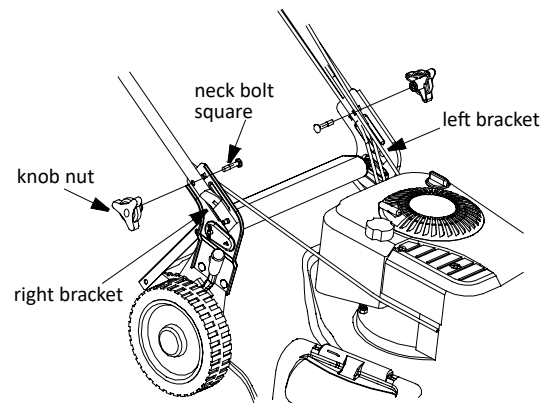

Fig.16
- Move the lower handle up and down around the rear cover rod to adjust the height. See fig. 16.